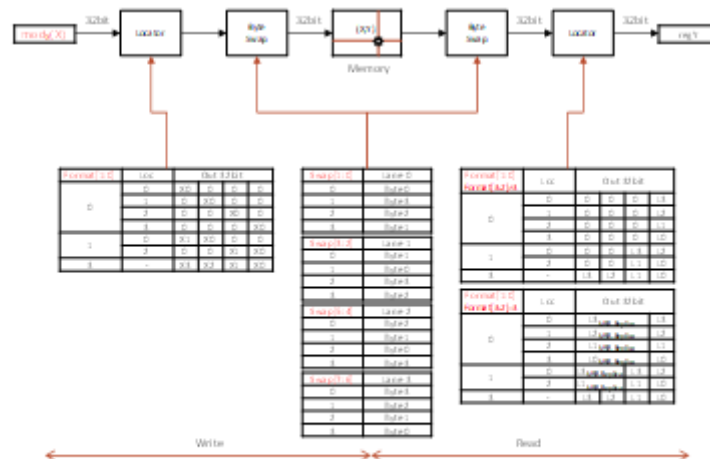

Figure 13 Read Data Transfer
- Figure 13 shows the data type conversion table for Read2D and Write2D. "Destination" refers to the transfer target, and "Source" refers to the transfer origin.